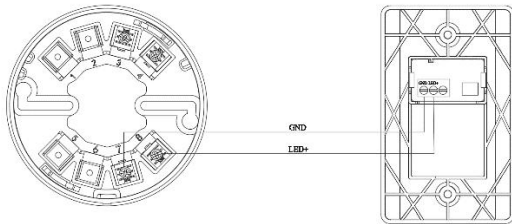

Figure 4. Wiring Base and Remote Indicator
- If the detector needs to work with the remote indicator, connect the base and the remote indicator as illustrated in Figure 4.